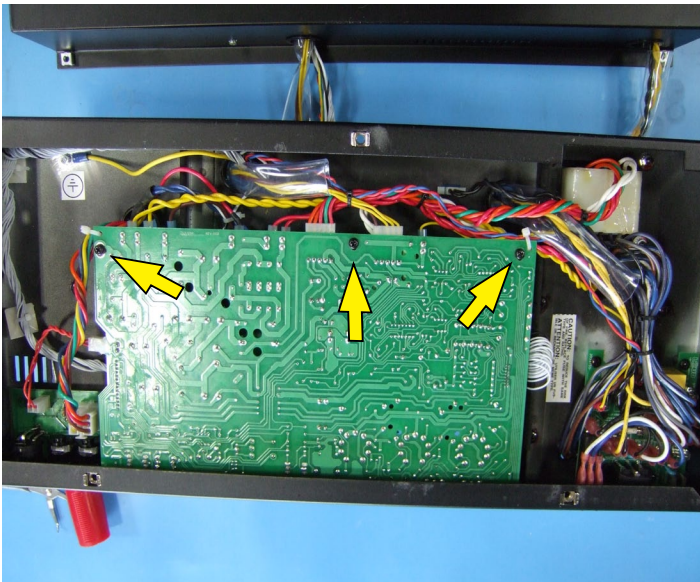

Figure 12a
12. Cut the two cable ties found on each corner of the main board. See figure 12a and 12b.
13. Remove the two screws located next to where the cable ties were located. There is also a third located between them that will also need to be removed, see Figure 12a, 13a and 13b.